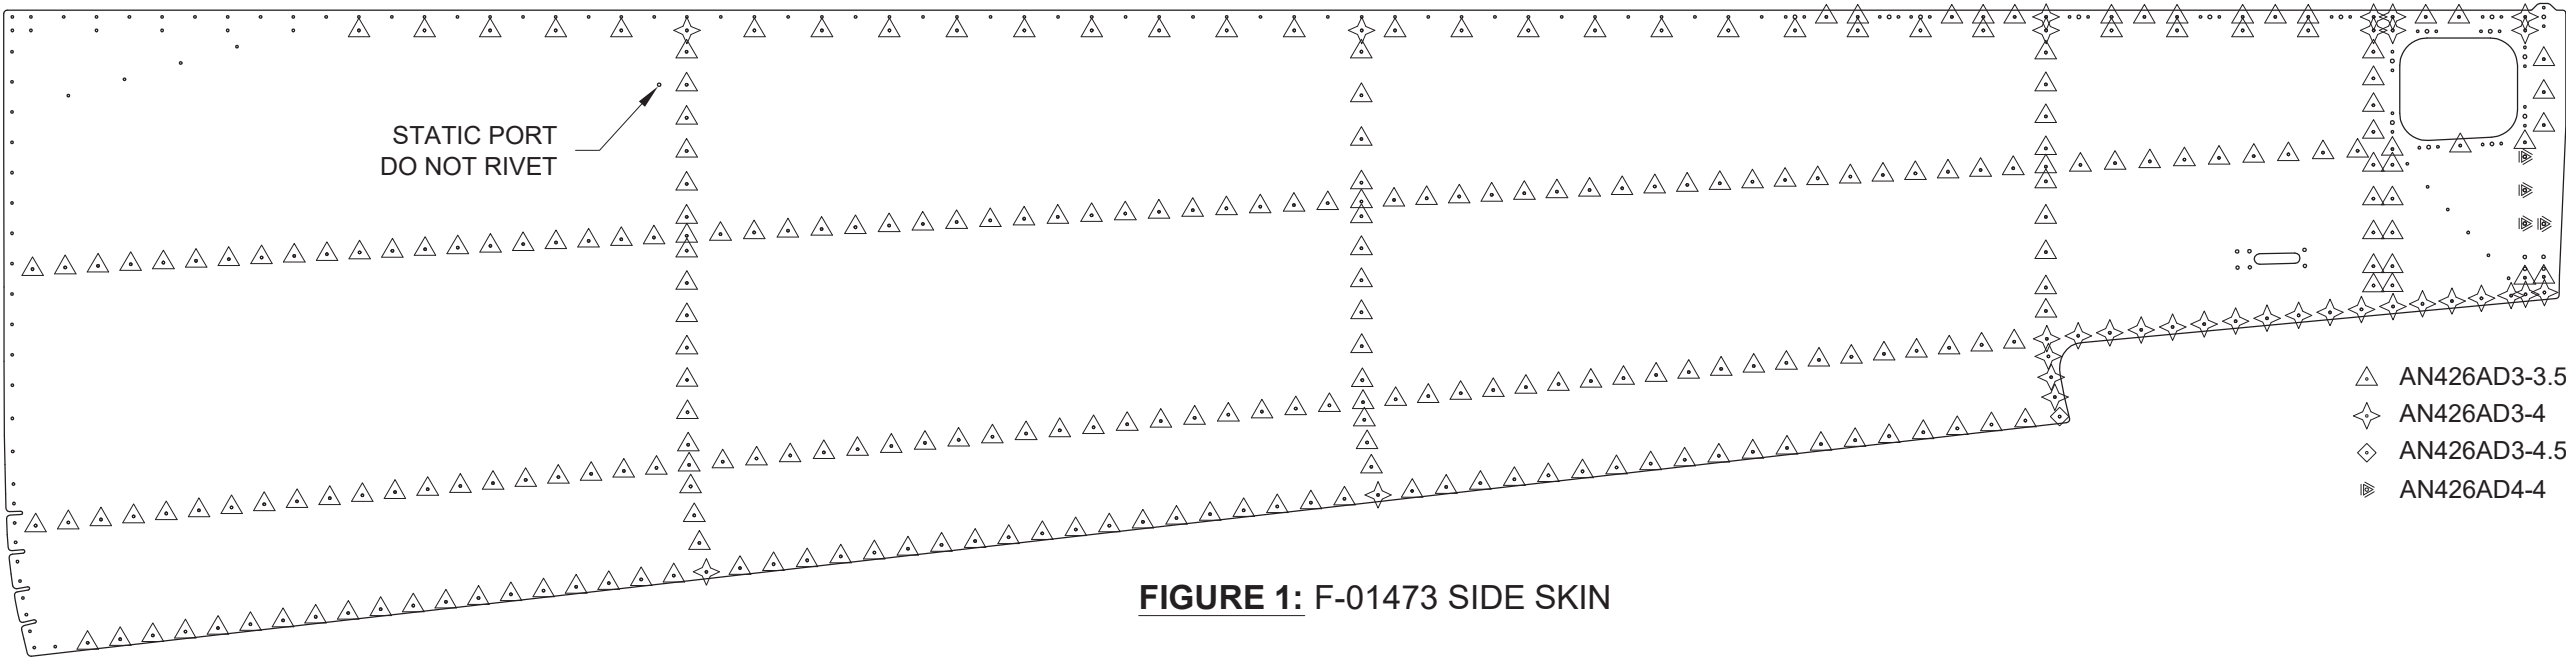

FIGURE 1: F-01473 SIDE SKIN
Step 1: Rivet the F-01473-L & -R Aft Fuse Side Skins to the F-01478 Bottom Skin, F-01479 Aft Bottom Skin, F-01486A-L & R, F-01486B-L & -R Stiffeners, and the F-01407, F-01408, F-01409, F01410, F-01411 and F-01412 Bulkheads as shown in Figure 1.